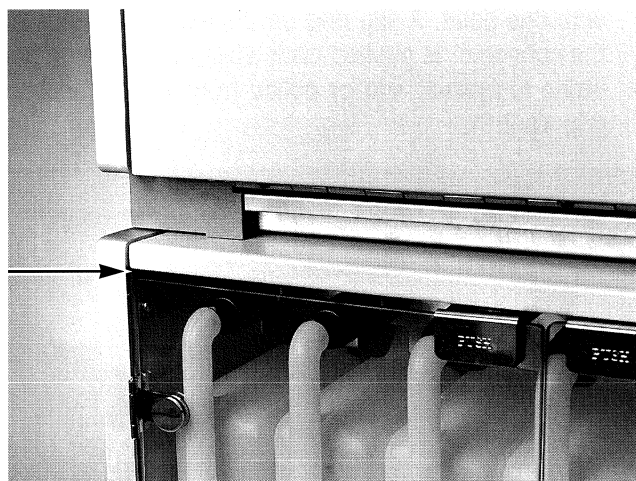

Figure 2-2
9. Locate the serial number label found on the left side of the instrument, immediately below the paraffin oven (Figure 2-2); a duplicate label is also found on the rear of the instrument. Write the installation date and instrument serial number on the Warranty Registration Card found in the front of this manual. Also write the installation date and serial number in the "Preservice Checklist" in Section 9. Completely fill out the Warranty Registration Card and mail.